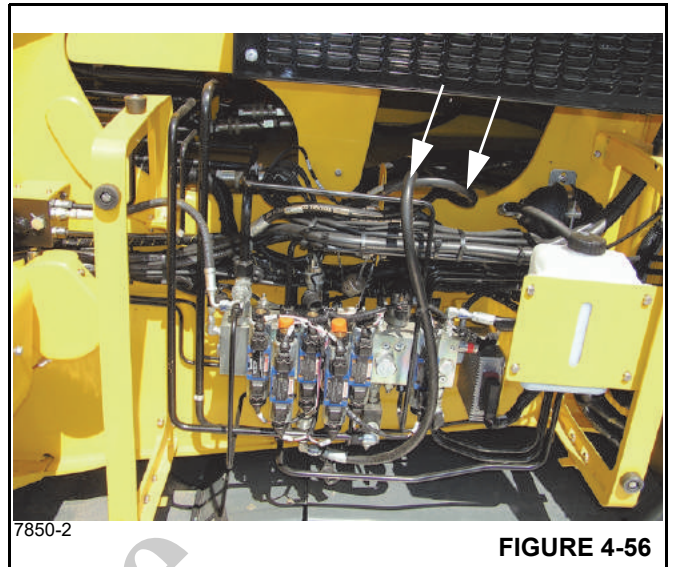

FIGURE 4-56
22. Connect the hydraulic hoses as tagged before removal (Figure 4-56).